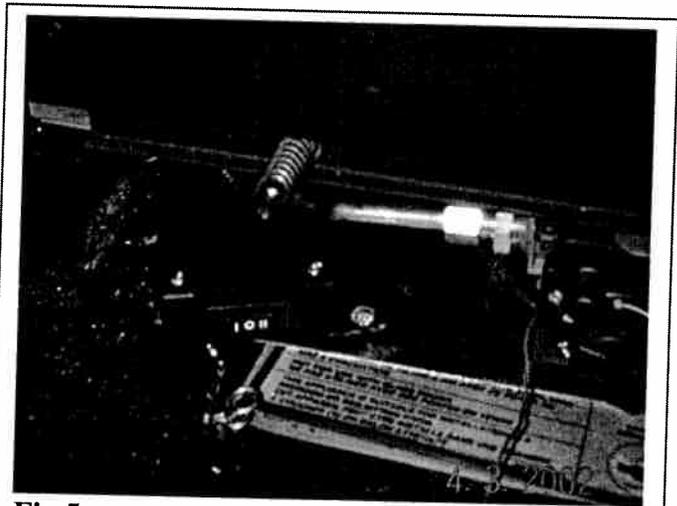

Fig.5
- Feed the cord set through the clearance hole on the left-hand side of the liner box. Fix the control box to the bracket using the screw provided. The bracket is flat when the unit is received, and should be bent up before securing the control box. (Fig.5)